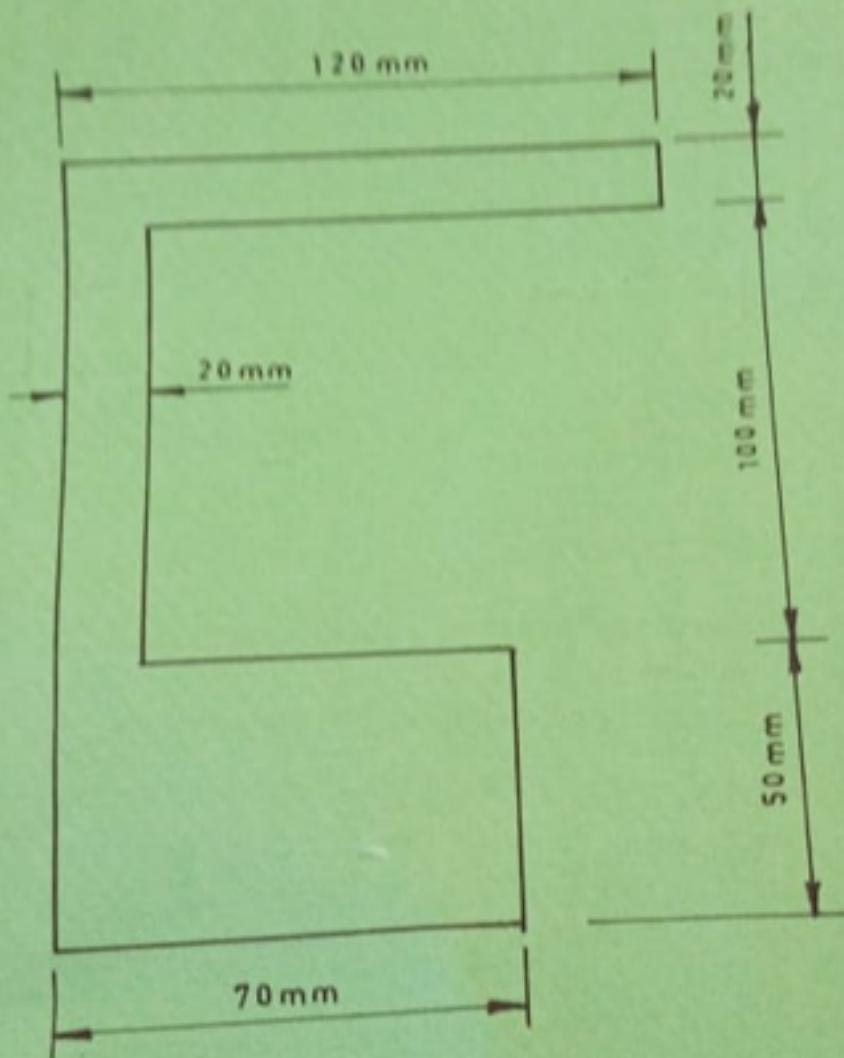

Fig. 5
- (b) Calculate the second moments of area of the section shown in figure 5 about the centroided axis; $x = x$ and $y = y$. (6 marks)